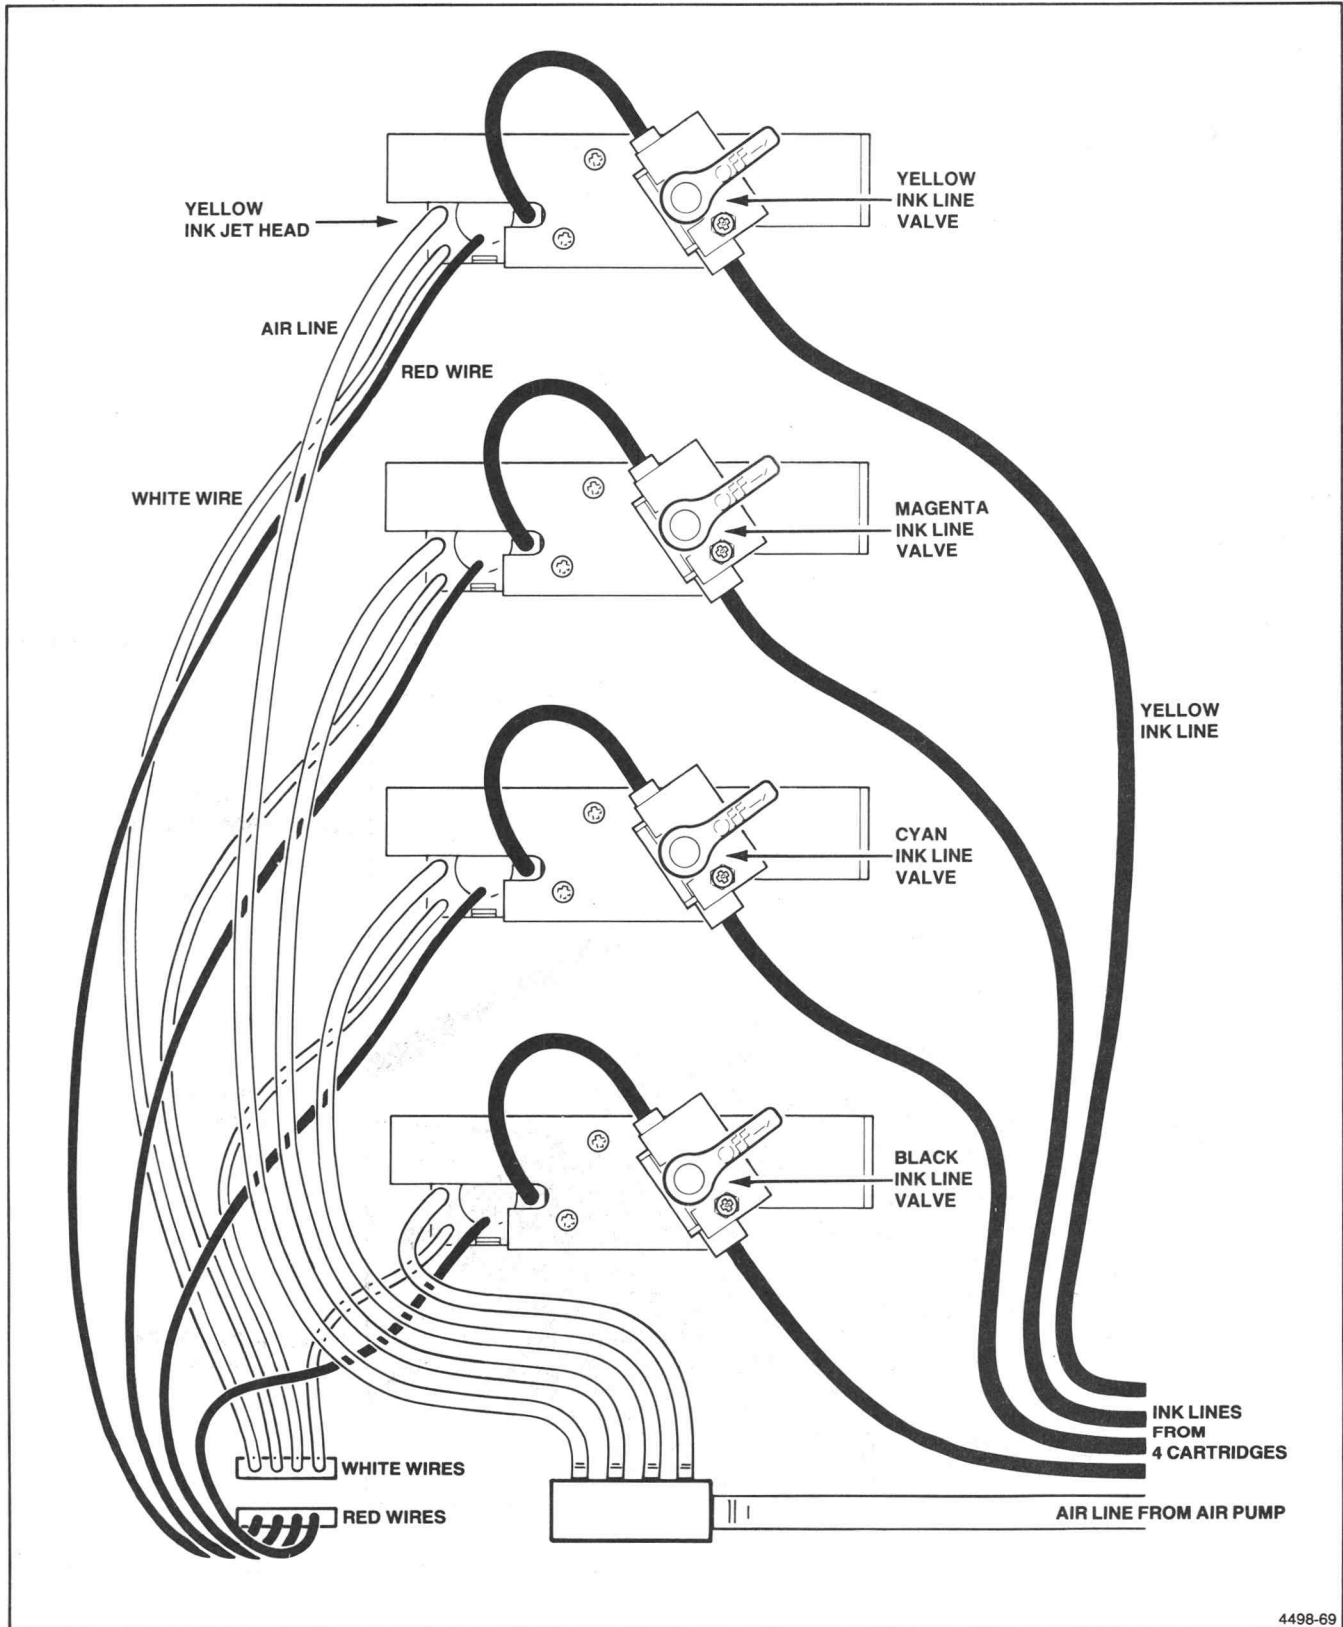

Figure 11-2. Ink Line Valve Location.
10. Close all four ink-line valves on the ink jet heads (see Figure 11-2 for the location of these valves). The valve is off when the valve handle is turned clockwise against the stop-screw. It is best to close the upper valve first and work toward the lower valve.